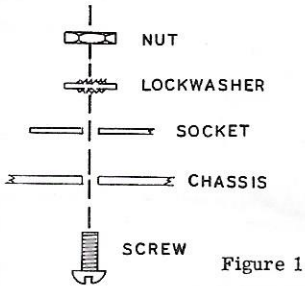

Figure 1
- () Mount the 7-pin miniature socket at A as shown, with the wide spacing to your right. See Figure 1. Use 3-48 hardware.